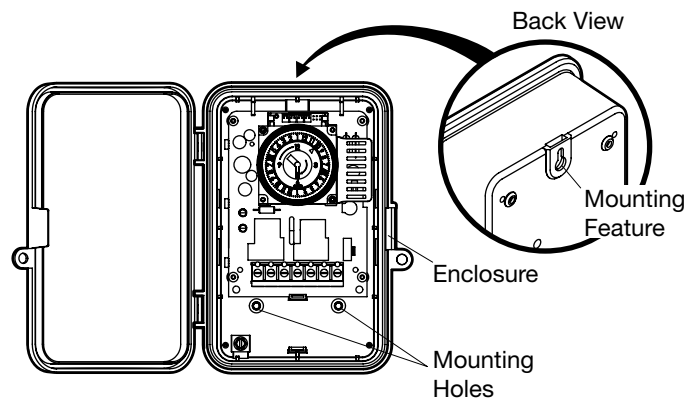

FIG. 5 Enclosure
- Place the enclosure in the desired location, providing space for the enclosure door to open fully. Mount the enclosure using the provided mounting features. Drill through the lower mounting holes if they are needed to secure the enclosure. See FIG. 5.